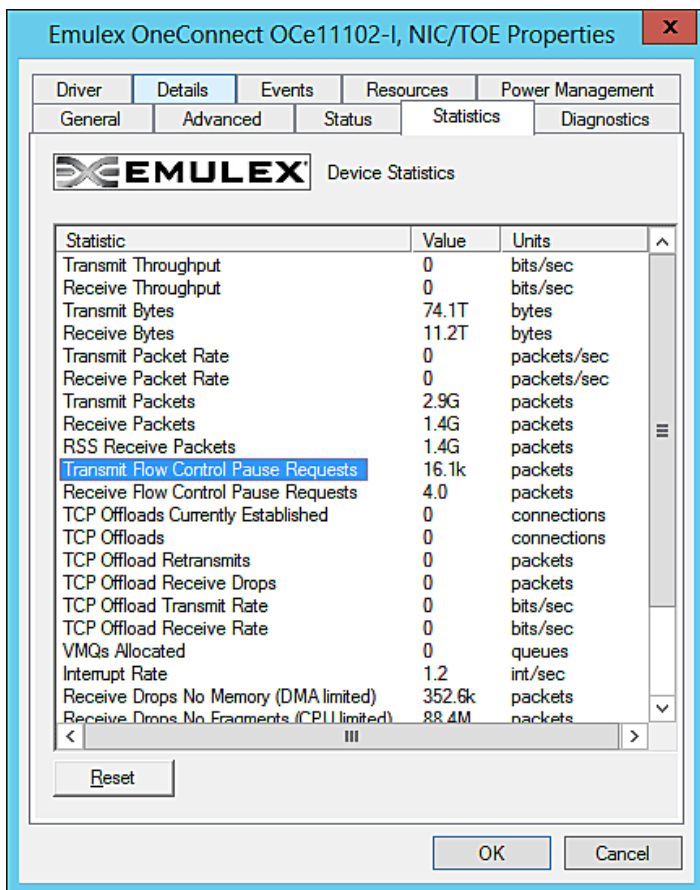

Figure 3-3 NIC/TOE Statistics Properties in Windows Server 2008
3. Click **Properties**, then click the **Statistics** tab (Figure 3-3 on page 54).